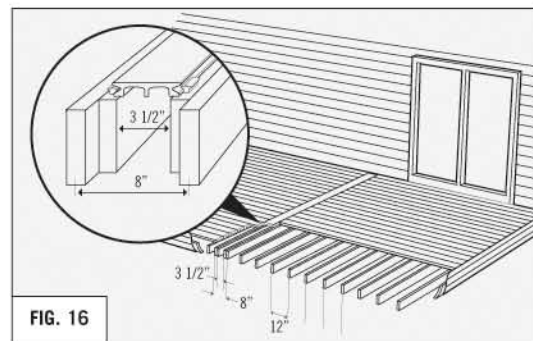

FIG. 16
- A breaker board is a single Eon deck board that runs perpendicular to the rest of the decking on both sides of the breaker board. **(REFER TO FIG. 16)**